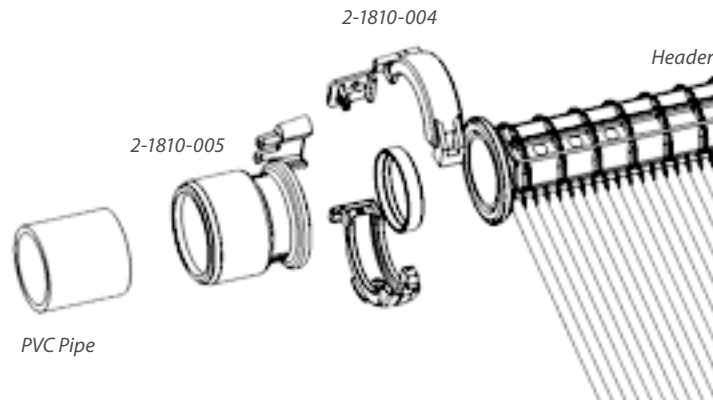

Fig. 11.1
3. Cement the PVC pipe to the (2-1810-005) pipe connector as shown in Fig. 11.1.